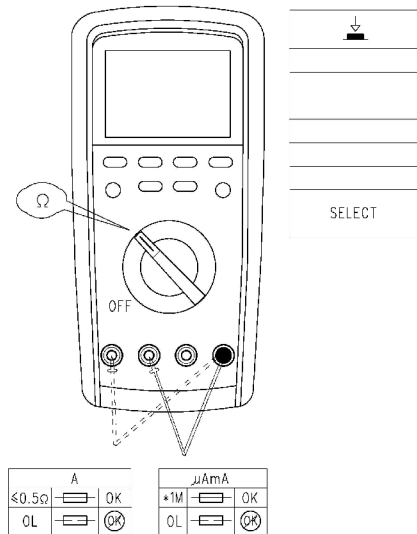

Figure 4b
- * By virtue of function of resistance measuring, it is allowed to make self-check on built-in fuse. Refer to (Figure 4b).